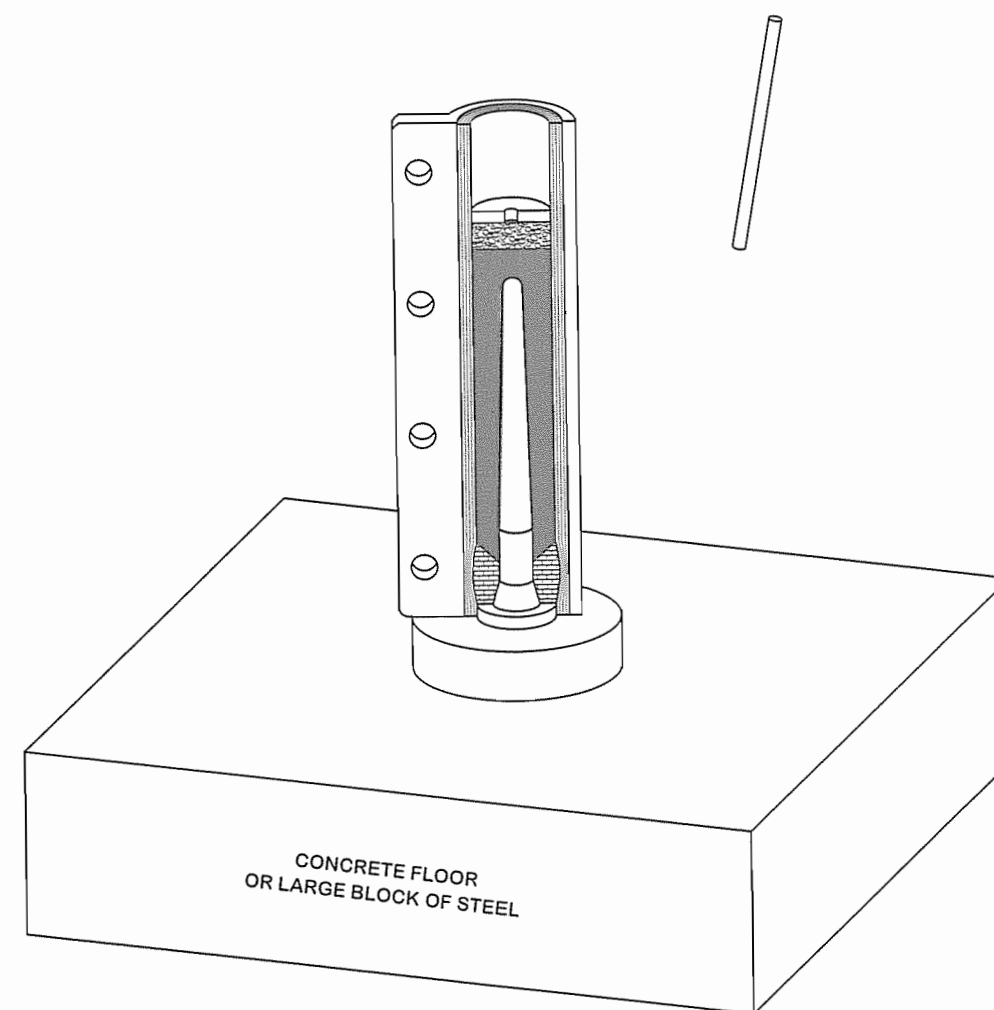
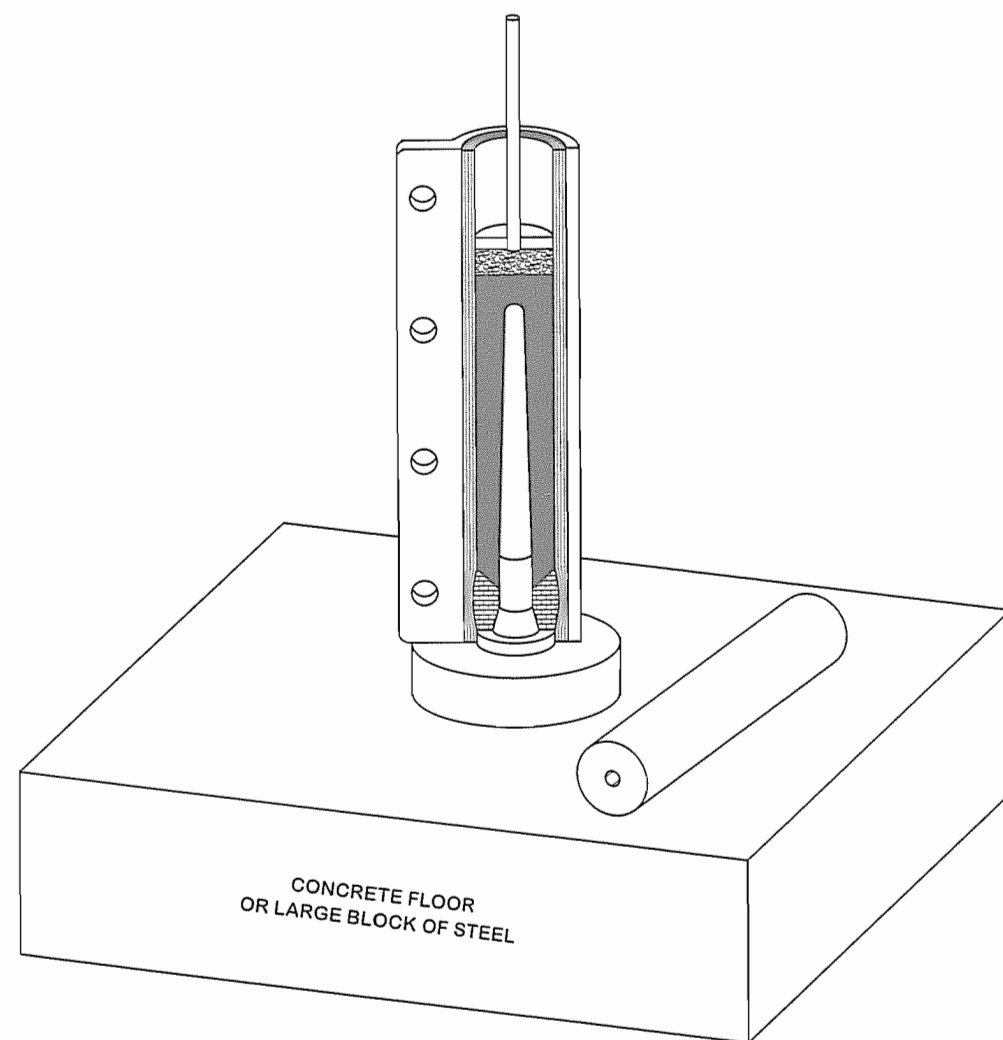
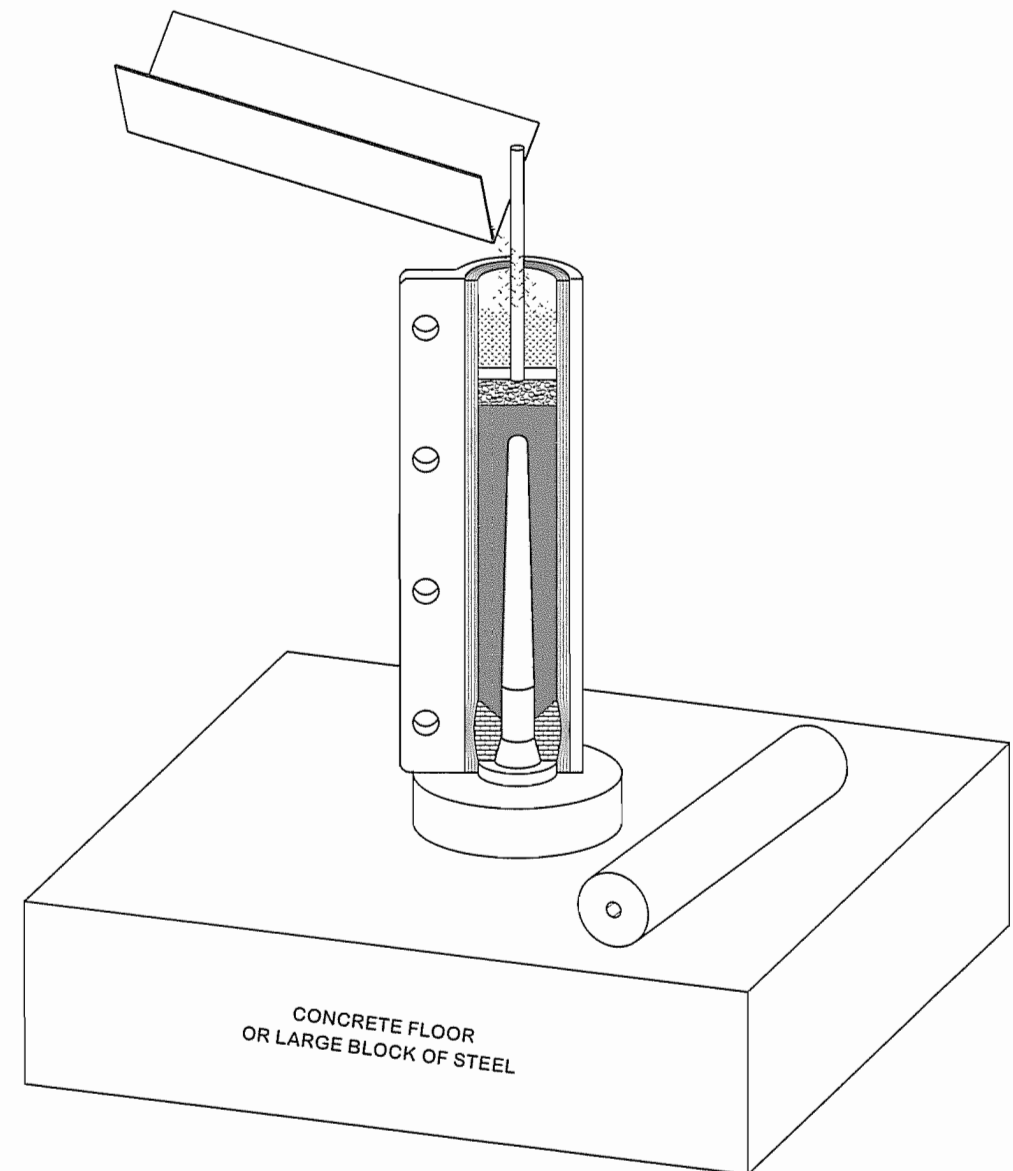

Figure 10-16. A punched cardboard disk is placed on top of the finished time delay.
Figure 10-17. A porthole wire is inserted into the hole in the cardboard disk.
Figure 10-18. The forward bulkhead clay is poured into the casing around the porthole wire.
9. Place a punched cardboard disk on top of the time delay (Figure 10-16). Insert the porthole rod into the hole in the disk (Figure 10-17). Then with a porthole tamp, ram in the amount of clay indicated for the forward bulkhead (Figures 10-18 and 10-19).